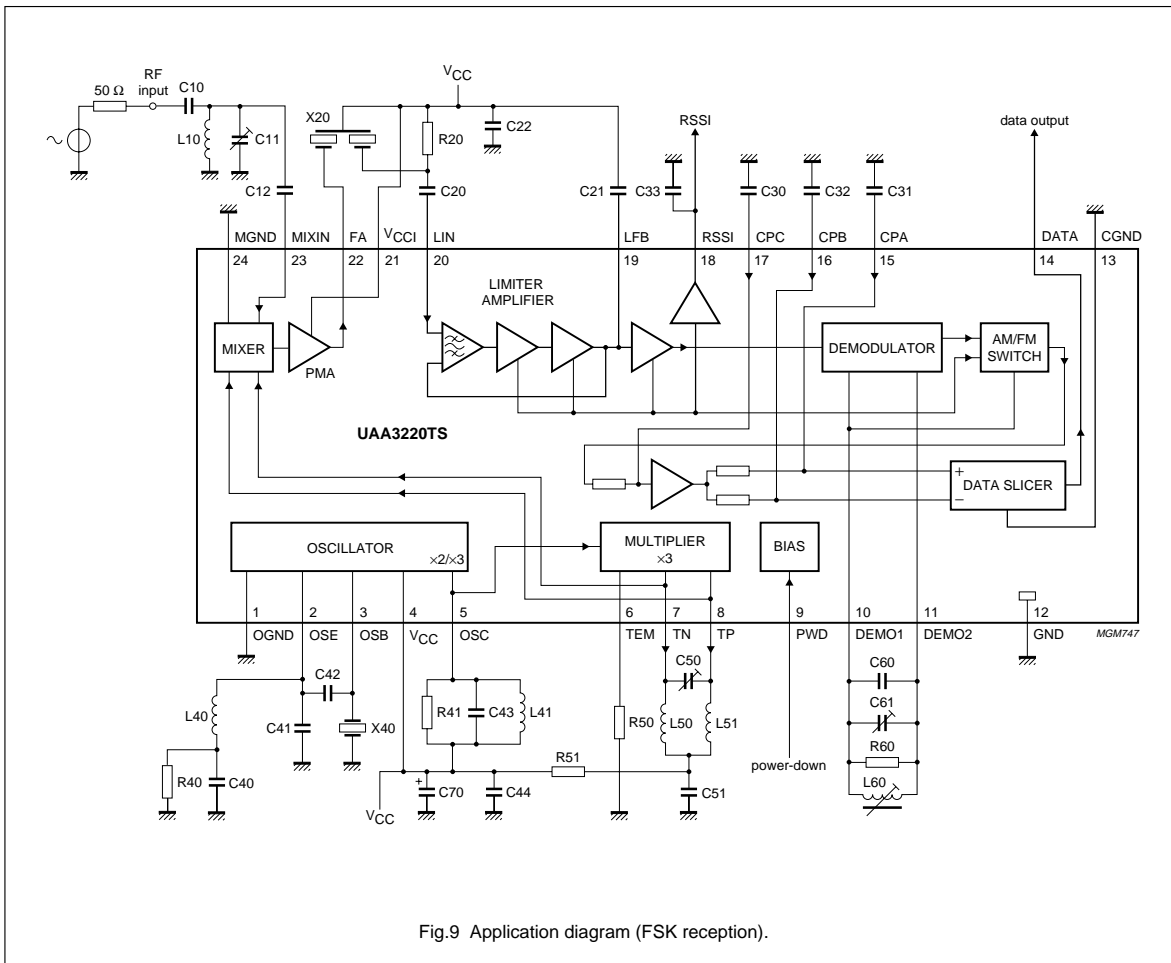

Fig.9 Application diagram (FSK reception).
- The data frequency range can be varied by changing C30 to C32 (see Figs 9 and 10) to match other bit rates. Data frequency determined by data slicer application.
Table 4 Component list for Figs 9 and 10; $f_{i(RF)} = 433.92$ MHz
Table 5 Component list for Figs 9 and 10; $f_{i(RF)} = 868.35$ MHz